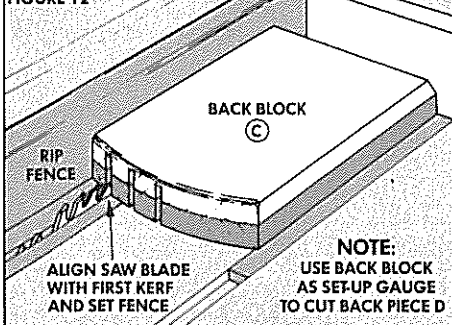

FIGURE 13
**THE VERTICAL GROOVES.** Now place the stop block against the bottom fence and one of the  $7\frac{1}{4}$ " spacer blocks against the left side fence, see Step 1, Fig. 13. Then, with the router against the spacer block, rout the vertical groove.
Next, insert a second  $7\frac{1}{4}$ " spacer block against the first block and rout the next vertical groove, see Step 2, Fig. 13. Finally, insert the third spacer block and rout the third vertical groove, see Step 3.
Next, cut the kerf in the back piece (D), with the curved end against the miter gauge and the rounded edge up, see Fig. 13. Follow this procedure to cut the other two kerfs.